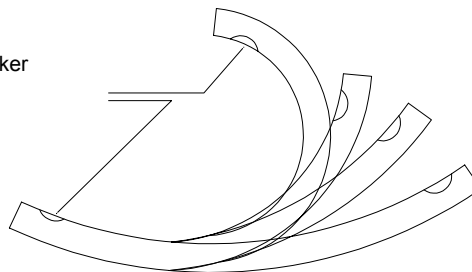

Figure 1 Determining the Plane of Original Flexure
- Install in the plane of original flexure (*see Figure 1*).